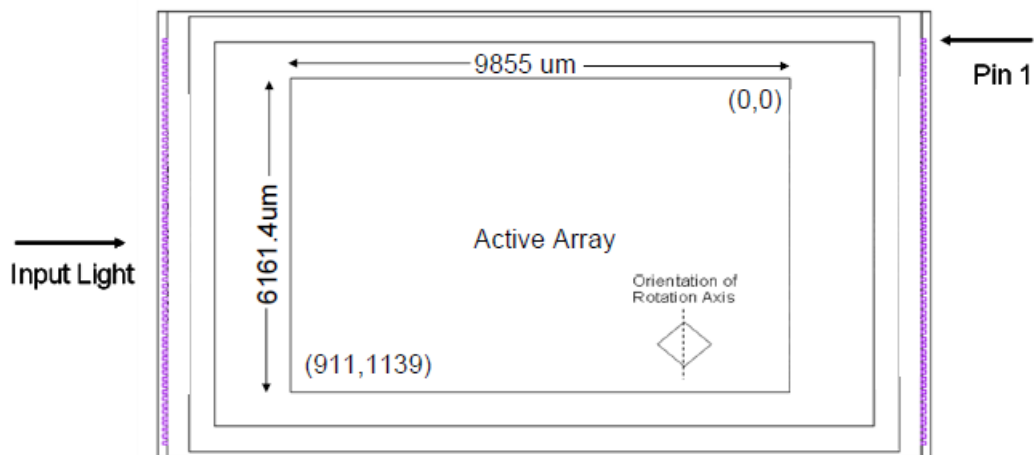

Figure 5. DLP4500 Micromirror Active Area
- (1) See Micromirror Array, Pitch, and Hinge-Axis Orientation.
- (2) See Micromirror Active Area in Figure 5.
- (3) The mirrors that form the array border are hard-wired to tilt in the -12° (“Off”) direction once power is applied to the DMD (see Micromirror Array, Pitch, and Hinge-Axis Orientation and Micromirror Landed Positions and Light Paths).